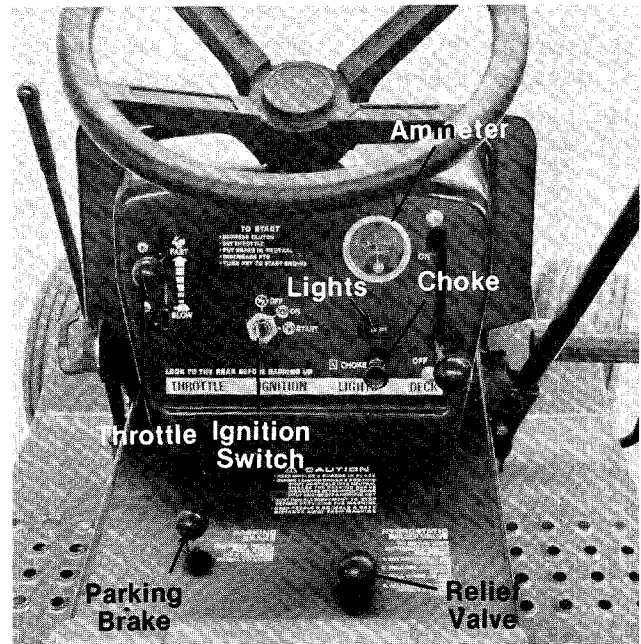

FIGURE 9.
The ignition switch is located in the center of the dashboard. Turn the key to the START position to start the engine. When the engine is running leave the key in the ON position. To stop the engine turn the key to the OFF position. (See figure 9.)
The throttle control is located on the left side of the dashboard and is used to regulate the engine speed. (See figure 9.) The engine should be operated from 3/4 to full throttle (FAST) when operating any equipment that uses the tractor engine as a source of power such as the mowing deck, snow thrower or rotary tiller. (See figure 9.)
The choke control is located on the right side of the dashboard and is operated manually. Details for the choke operation are covered in the Engine Operating and Maintenance Instructions Manual. (See figure 9.)
The head lamps are operated by pushing the light switch located on the dashboard. The head lamps will only operate when the engine is running. (See figure 9.)
The maximum charging rate is 3 amps. The head lamps operate directly from the engine alternator and do not register on the ammeter. (See figure 9.)
To set the parking brake, depress the clutch-brake pedal and pull up the parking brake knob. It will stay in the raised position. To release the parking brake, depress and release the clutch-brake pedal. (See figures 9 and 12.)
To move the riding mower without the engine running, pull up the relief valve and lock it in the raised position. This allows the rear wheels to roll. (See figure 9.)
1. Unscrew the parking brake and relief valve knobs. (See figure 9.)